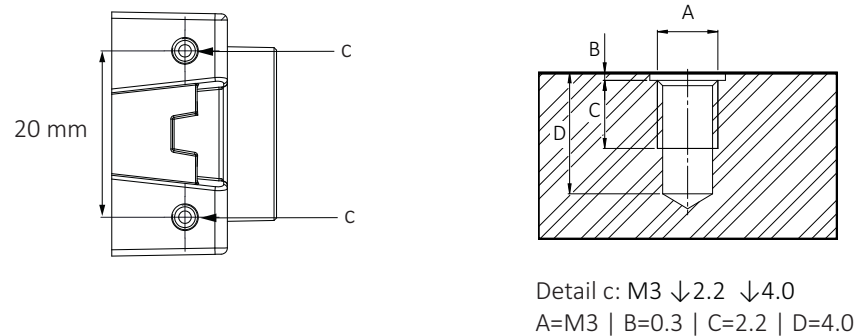

Figure 85: Top and bottom and mounting threads (c)
1. Mount the camera to the base using suitable M3 screws at 0.51 Nm maximum torque for a thread engagement (C) of 2.2 mm between screws and mounting threads, see Figure 85. For technical drawings, see Standard Alviium: Dimensions and mass on page 186.